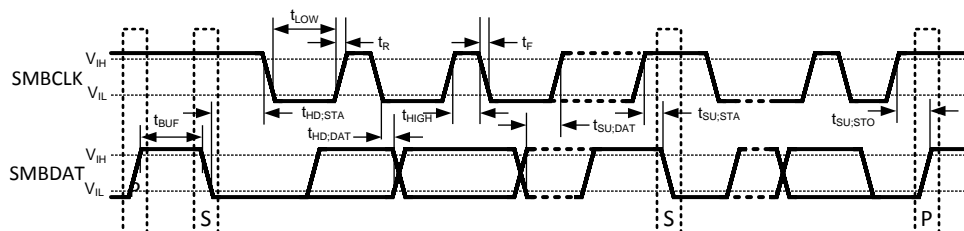

Figure 2. SMBus Communication
- (1) Absolute Maximum Ratings indicate limits beyond which damage to the device may occur. Operating Ratings indicate conditions for which the device is ensured to be functional, but do not ensure specific performance limits. For ensured specifications and test conditions, see the Electrical Characteristics. The ensured specifications apply only for the test conditions listed. Some performance characteristics may degrade when the device is not operated under the listed test conditions. Operation of the device beyond the maximum Operating Ratings is not recommended.
- (2) When the input voltage (V_I) at any pin exceeds the power supplies ($V_I < GND$ or $V_I > V_{DD}$), the current at that pin should be limited to 5 mA. Parasitic components and or ESD protection circuitry are shown in Figure 2 and Table 1 for the LM95241's pins. Care should be taken not to forward bias the parasitic diode, D1, present on pins: D1+, D2+, D1–, D2–. Doing so by more than 50 mV may corrupt the temperature measurements.
- (3) Thermal resistance junction-to-ambient when attached to a printed circuit board with 1oz. foil and no air flow: